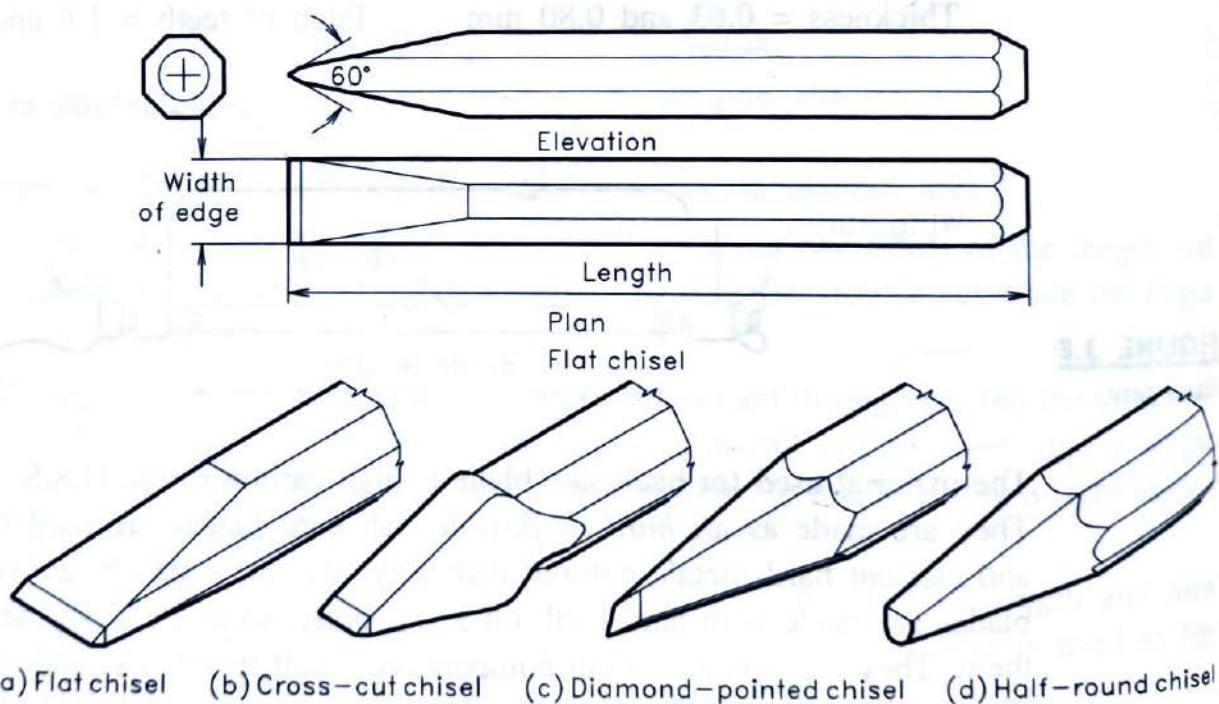

FIGURE 3.9
1. Flat cold chisel: This is the most common type of chisel used in fitting shop. It is used to chip off excess metal from the surface of the job. It can also be used for cutting sheets, rods, bars, wires and similar metallic pieces. The length varies from 100 to 400 mm while the cutting edge length is kept between 16 to 32 mm [Figure 3.9(a)].
3. Diamond pointed cold chisel: This is a special purpose chisel used to cut V-grooves, cleaning of corners and squaring of holes. The cutting edge has a diamond shape as shown in Figure 3.9(c). The size of the chisel is similar to the flat one, but width of cutting edge varies from 6 to 16 mm.